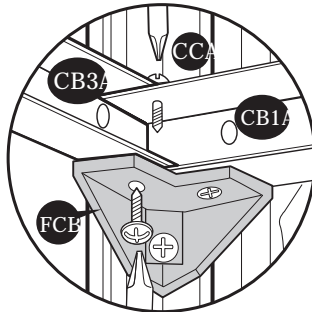

Fig.2: Use (S1) screws. Fix (CB3A) to (FCB) and (CB1A)
12. Stabilize the side panels with center bands (CB3A) & (CB2A). Fix (FCB) fitting to corner column (CCA). See Fig.1 Follow the Fig. 2, 3, 4 & 5.